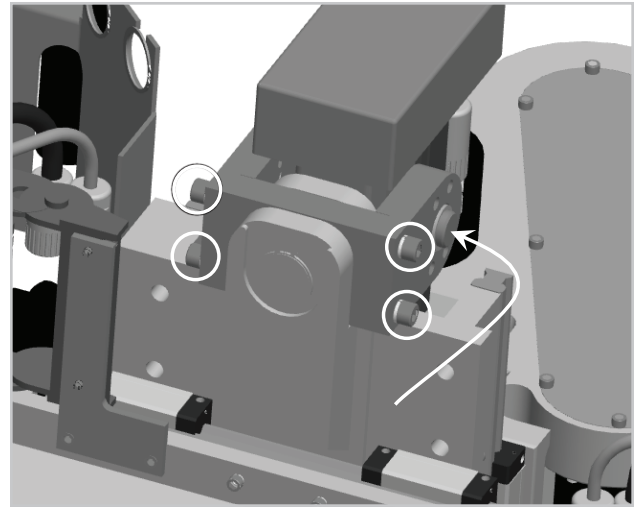

Figure 175
Step 4 – Use an 8mm Allen wrench to remove the cap screws from the trunnion mount at the top of the actuator. Carefully lift the actuator up and remove it through the top of the machine. The location of the cap screws and trunnion are shown in Figure 175.